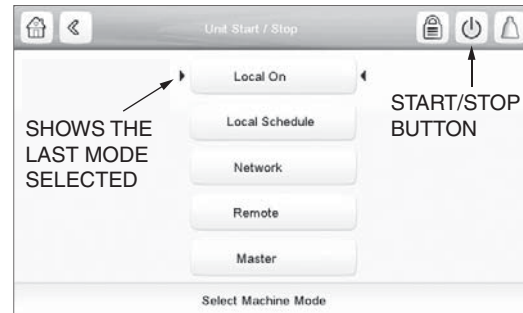

**Fig. 20 — Machine Control Methods**
The main interface Start/Stop button is used to select one of the above control types. In addition, when the Local control type is selected, this button can be used to select a particular functional mode: On, Off or Schedule mode. See Fig. 20. If the Start/Stop button is green the unit is running. If the Start/Stop button is gray the unit is not running. If the button is flashing green then the unit is preparing to start.
**OPERATING TYPE SELECTION** — The operating type is selected through the main interface by pressing the Start/Stop button. If the unit is On, pressing the Start/Stop button displays a screen with a Confirm Stop button, which when pressed switches the chiller to Local Off mode. If the unit is Off, pressing the Start/Stop button shows a list of operating types with the currently selected type corresponding to the last running operating type (Fig. 20).